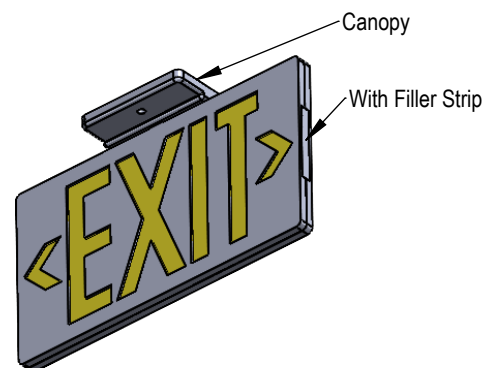

Fig. 3
2. Mark and drill the hole locations on the ceiling using mounting holes on the Canopy (2) see Fig. 3